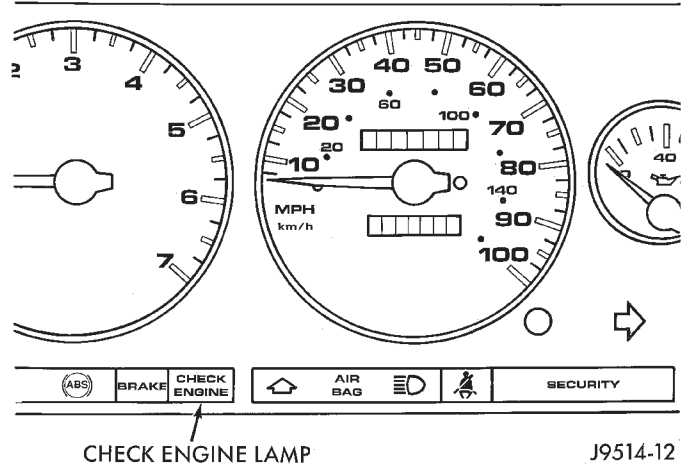

Fig. 17 Check Engine Lamp Location
NOTE: If the engine has remained cool for too long a period, such as with a stuck open thermostat, a Diagnostic Trouble Code (DTC) number 17 can be observed at the malfunction indicator lamp. This lamp is displayed on the instrument panel as the **CHECK ENGINE** lamp (Fig. 17).
A stored Diagnostic Trouble Code (DTC) can be displayed by cycling the ignition key On-Off-On-Off-On within three seconds and observing the malfunction indicator lamp. This lamp is displayed on the instrument panel as the **CHECK ENGINE** lamp (Fig. 17).
- If the lamp (Fig. 17) flashes 1 time, pauses and flashes 2 more times, a flashing Diagnostic Trouble Code (DTC) number 12 is indicated. If this code is observed, it is indicating that the battery has been disconnected within the last 50 key-on cycles. It could also indicate that battery voltage has been dis-